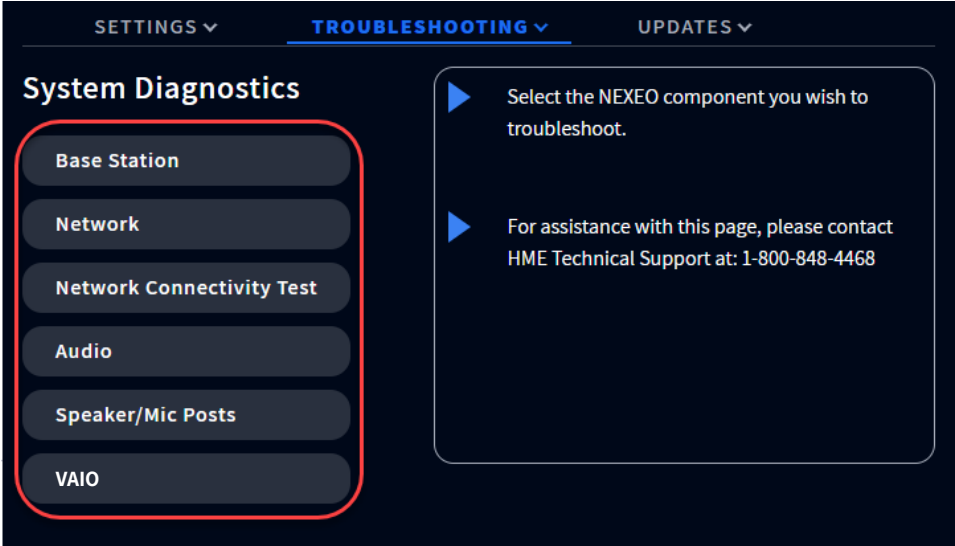

Fig. 14.2
**System Diagnostics continued:** Valuable feedback on the health of each component can be found by clicking on any of the component options listed under System Diagnostics in Fig. 14.2 (i.e., Base Station, Network, Audio, Speaker/Mic Posts, and AOT).